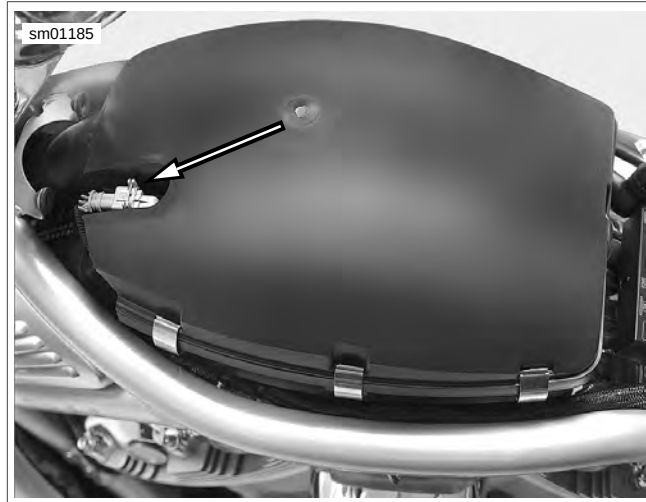

Figure 4-3. Intake Air Temperature Sensor Location (typical)
3. See Figure 4-3. Remove IAT sensor connector [89B].